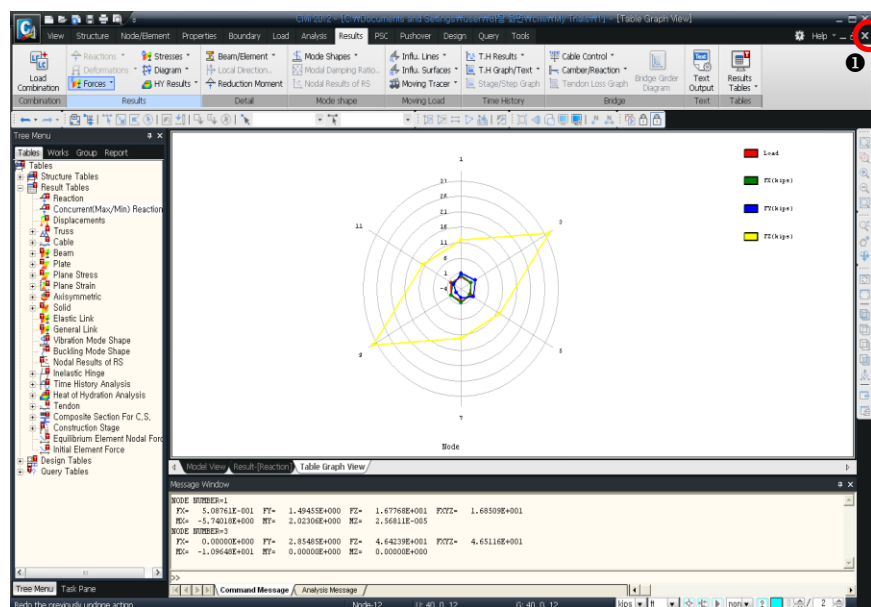

Figure 1.25 Web Chart showing Reaction Forces
1. Click  of Fig.1.25-① to close the **Table Graph View** and **Result-[Reaction]** windows.